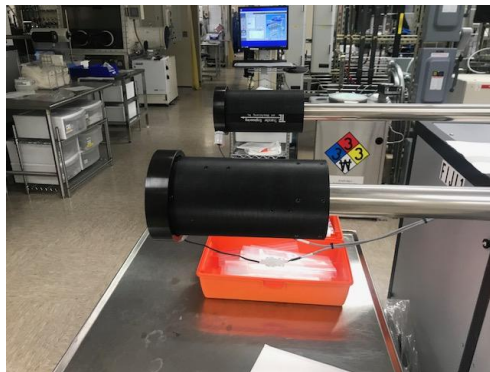

Figure 1: Sleeve magnetically coupled to transfer arm
- The black sleeve on the outside of the tool is magnetically coupled to the transfer arm. It is possible for the transfer arm and black sleeve to become uncoupled if excessive force is used. If decoupling occurs, stop operation and find a staff member. **Figure 1.**